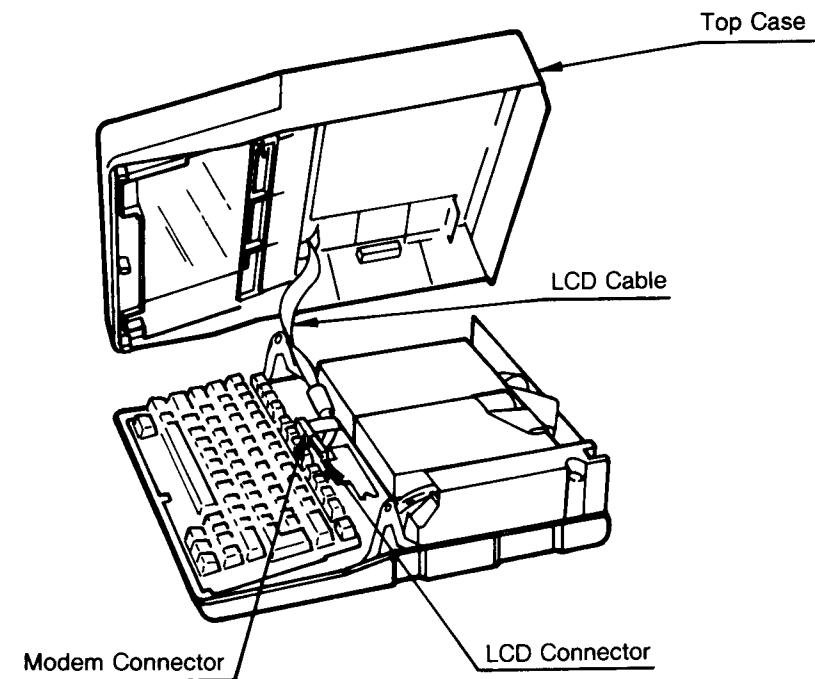

Figure 2-3. Top Case Removal
- (5) Lift off the Top Case assembly from the Bottom Case, pressing the Eject Buttons of FDD's so that they do not catch the Top Case. (Figure 2-3)